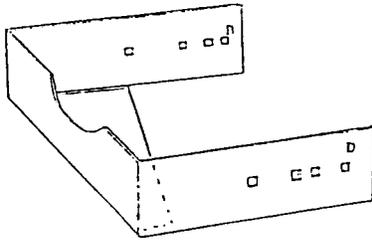

Figure 1A
3. Install extended discharge member so holes B & D (see figure 1A or 1B) line up with the back holes in the delivery port (see figure 2).